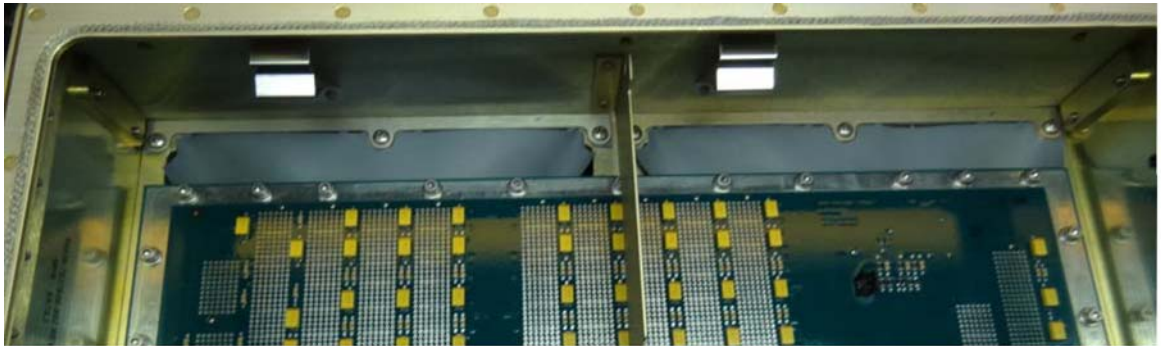

Figure 3. (Sheet 1 of 2) Baffle Flappers Positioned Incorrectly
- (3) Figure 3 shows two views of the baffle flappers positioned incorrectly and lodged in the frame vent openings.